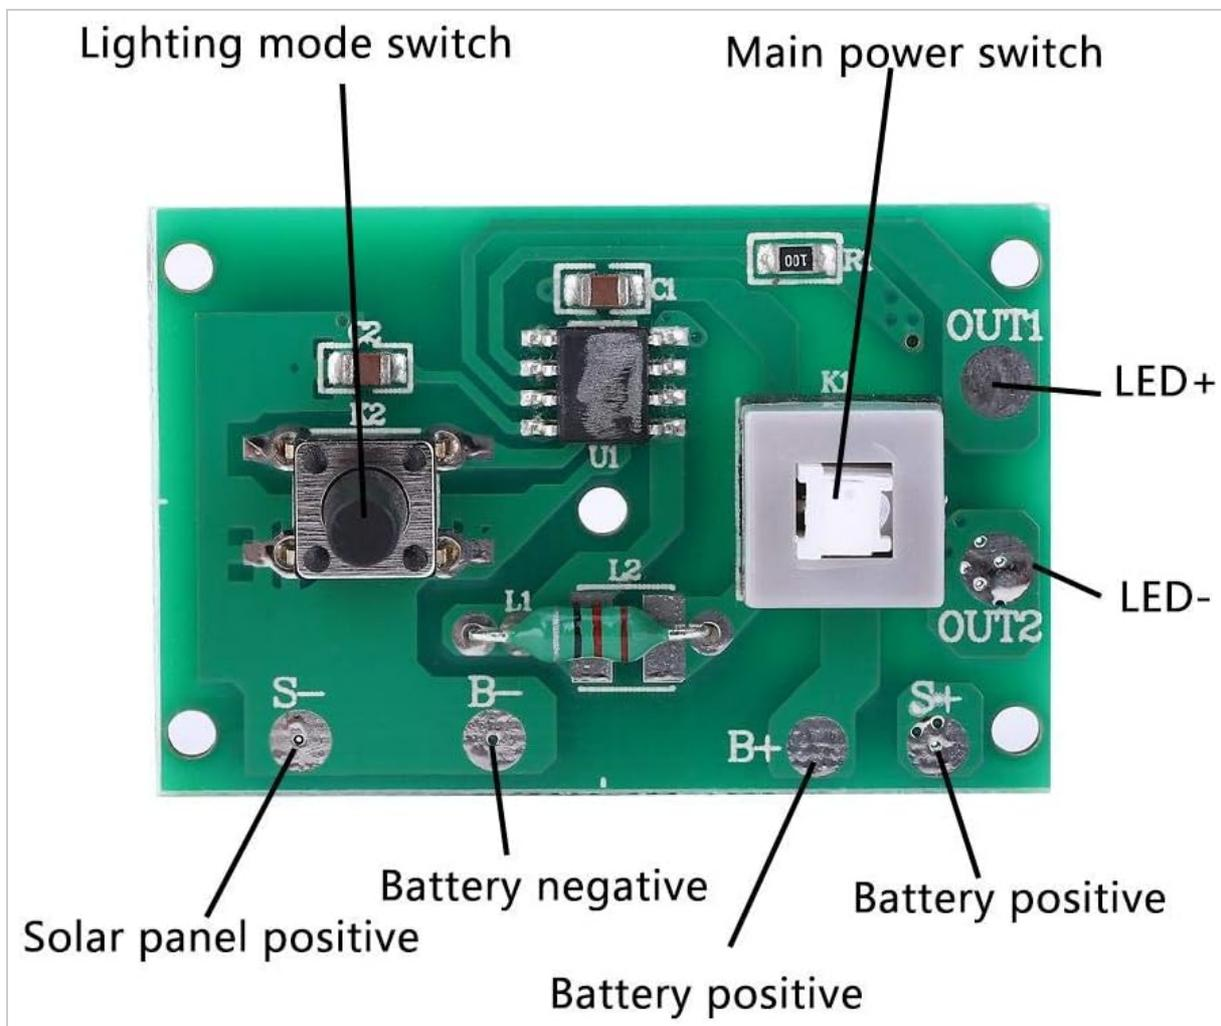

Figure 1: Yanmis Solar Light String Controller Module SS1208 with labeled connection points.
- **Main Power Switch:** This switch (labeled 'Main power switch' in Figure 1, the larger white switch) controls the overall power to the module. Toggle it to the 'ON' position to activate the controller.
- **Lighting Mode Switch:** This button (labeled 'Lighting mode switch' in Figure 1, the smaller black button) allows you to cycle through the available lighting patterns. Press the button repeatedly to select your desired mode.